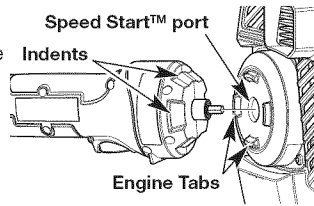

Fig. 2
1. Place the electric starter keyed tip into the Speed Start™ port, making sure the engine tabs are flush with the indents on the electric starter. (Fig. 2)